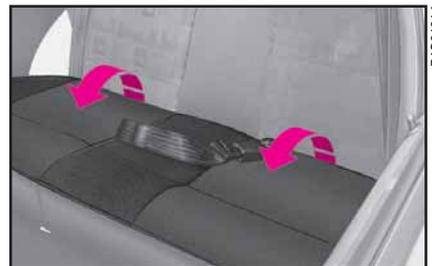

fig. 69
2) Grip the back of the cushion and tilt it forward against the seat backs of the front seats **fig. 69**.